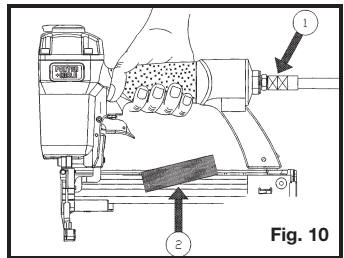

Fig. 10
17. Connect tool to air supply before loading fasteners, to prevent a fastener from being fired during connection. The tool driving mechanism may cycle when tool is connected to the air supply. Fig. 10.